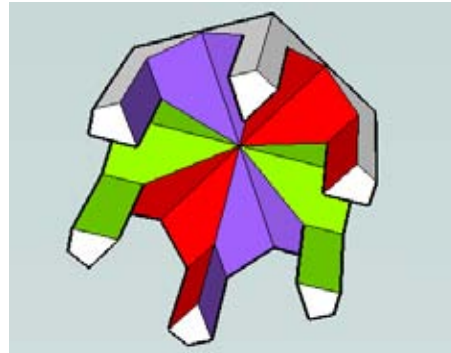

Figure 3-26
14. Remove faces inside the other two passageways. After some cleanup (you might have to trace edges to re-create some of the faces), the underside should look like Figure 3-26.